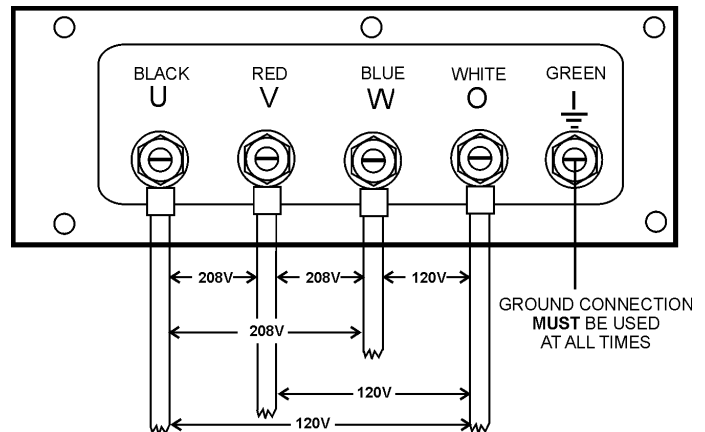

Figure 24. UVWO Terminal Lugs 3Ø-208V/120V Connections
2. Connect the load wires to the UVWO terminals as shown in Figure 24.